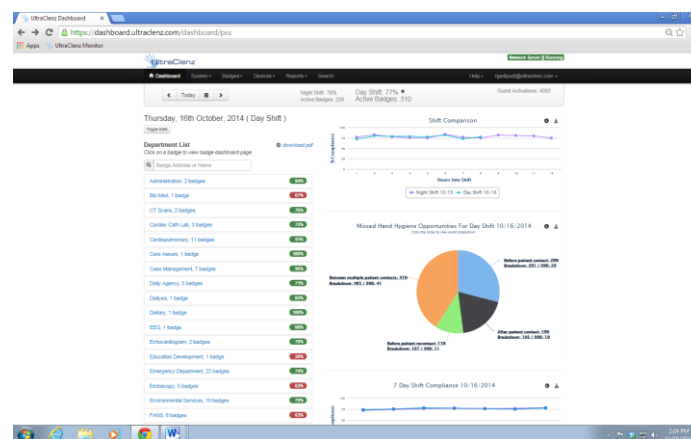

Figure 12. First Screen of Dashboard
4. When access is granted you should see the screen shown in *Figure 12*.